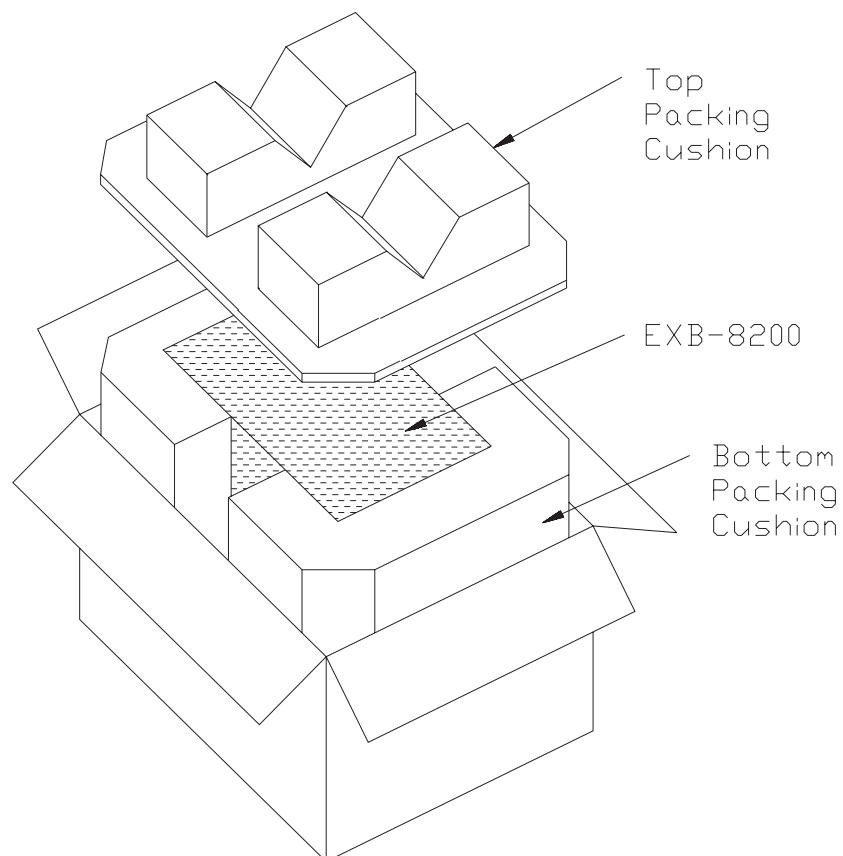

Figure 9-1 Single-Pack Carton and Packing Materials for the EXB-8200
4. Place the EXB-8200 in the bottom packing cushion's fitted space as shown in Figure 9-1.
5. Place the top packing cushion over the EXB-8200, with the cardboard side facing down, as shown in Figure 9-1.